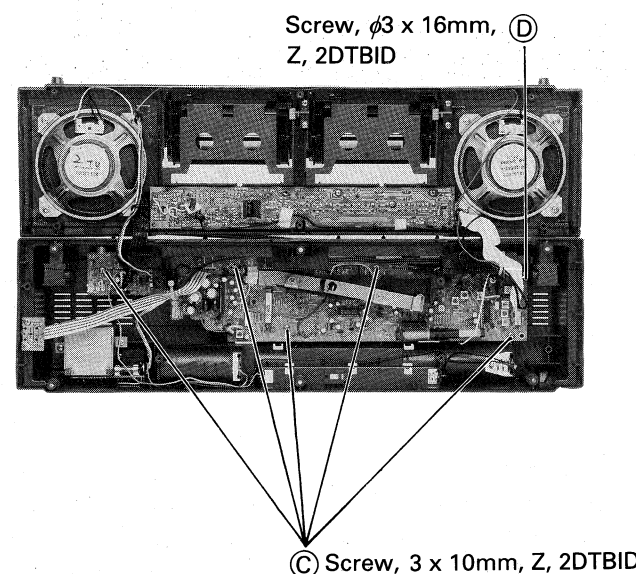

Figure 3
2. Remove five screws (C) and one screw (D).
3. Main P.C. Board will be removed. (Figure 3)